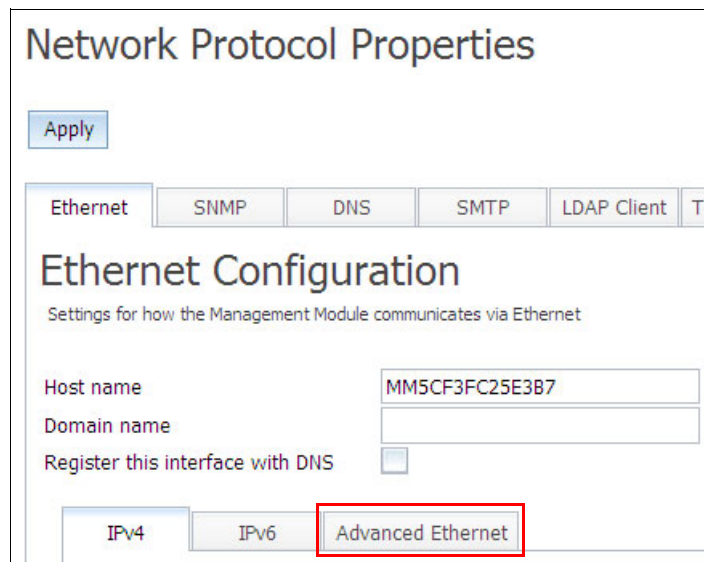

Figure 4-27 Network Protocol Properties window
2. Select **Network** from the **Mgt Module Management** menu, then click **Advanced Ethernet** tab, as shown in Figure 4-27.